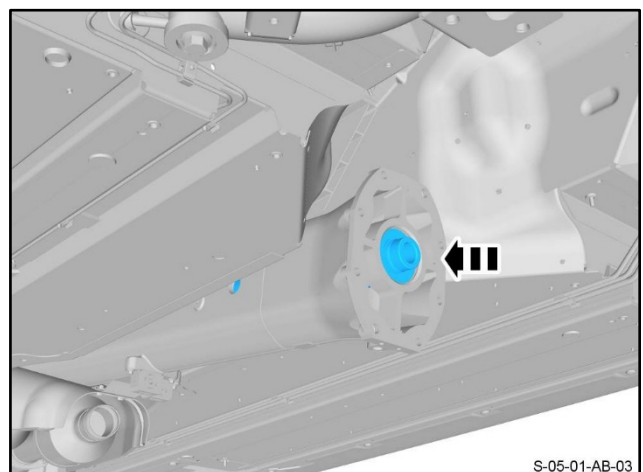

Figure 44
86. Carefully install the propeller shaft into the torque tube and engage the splines of the propeller shaft in the clutch (refer to Figure 44).